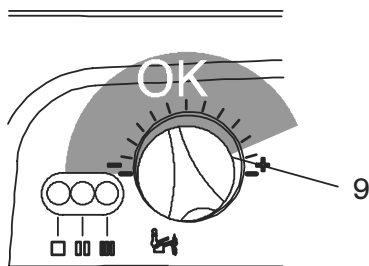

Fig. 2.10
Where lime scale is present in the water supply (hard water areas) it is also advisable not to exceed the setting position of the d.h.w. temperature control knob (9) as indicated in Fig. 2.10. This will help to minimise the incidences of scale deposits clogging the domestic hot water heat exchanger of the boiler.